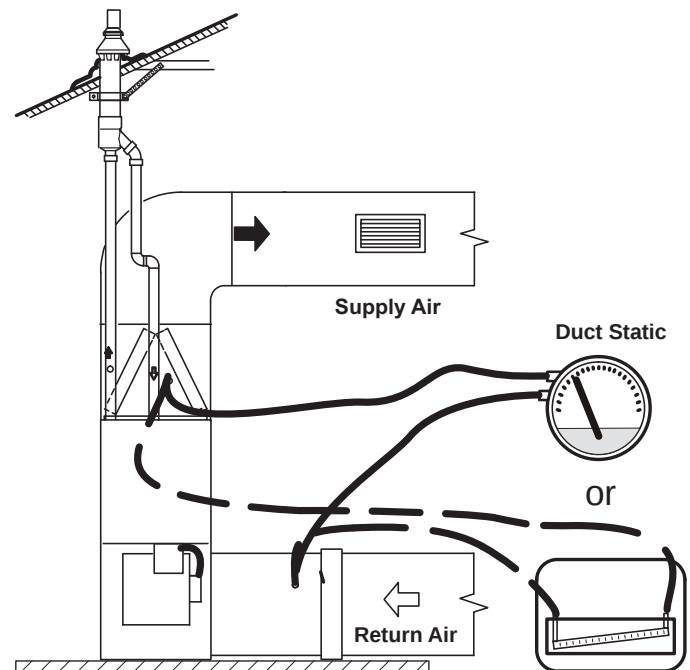

Figure 25.
- 1 - Tap locations shown in **FIGURE 25**.